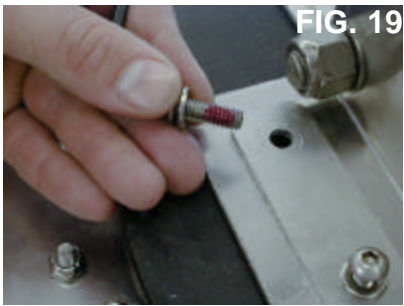

FIG. 19
10. Loctite should be used on all 6 allen head screws (fig. 19). All 6 allen head screws should be tightened to 8 ft. lbs.